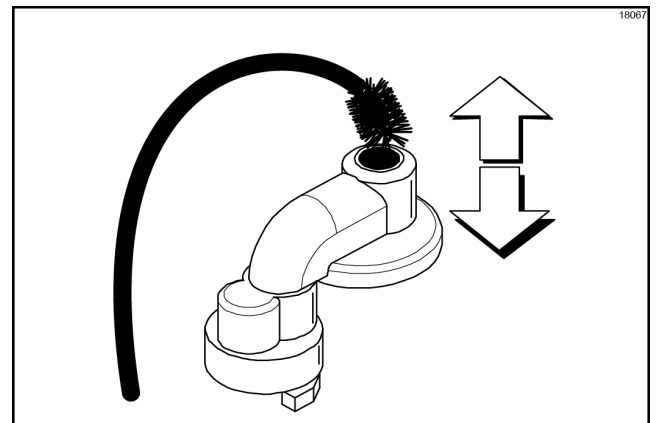

Figure-86
8. Insert the black shielded brush into the bottom side of the inlet valve. Move the brush back and forth to scrub this area, specifically around the steel ball. (See Figure-86.)